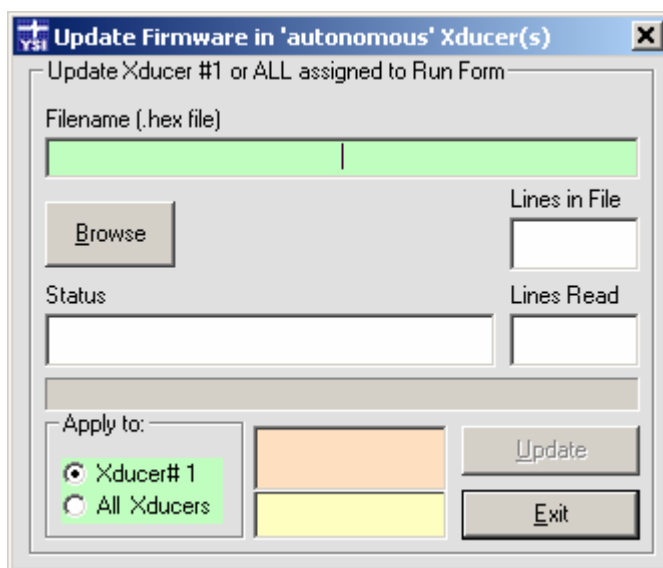

Figure 4.14
- 4) From the menu bar select **Configure** and then **Update Firmware**. The Update Firmware window will open (figure 4.14). Click the **Browse** button to locate the new firmware file to be downloaded to the Level Scout. To update all transducers listed on the Run window, ensure they have been unlocked as described above, then click the **All Xducers** option in the Apply to frame.